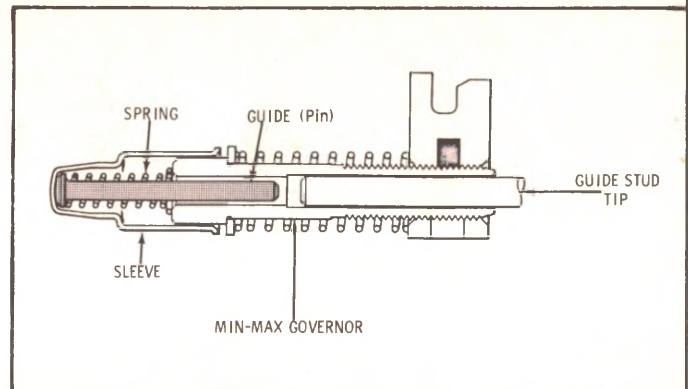

Fig. 5-2 Min-Max Governor Kit Installed
4. Install sleeve on to min-max governor as shown in Figure 5-2 and reinstall into pump.